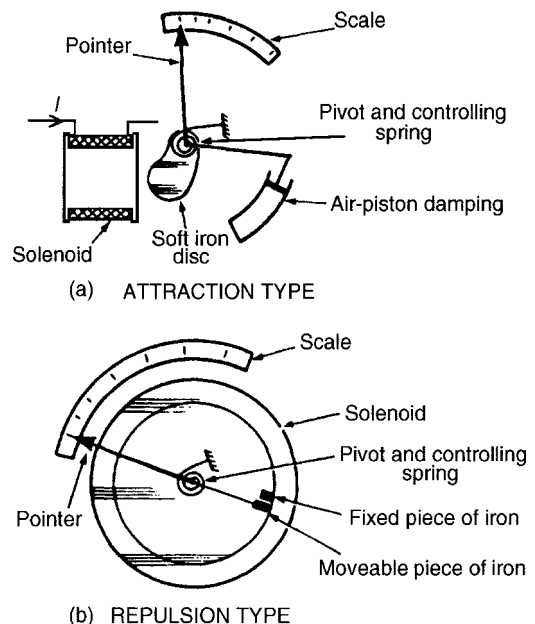

Figure 10.2
- An **attraction type** of moving-iron instrument is shown diagrammatically in Fig. 10.2(a). When current flows in the solenoid, a pivoted soft-iron disc is attracted towards the solenoid and the movement causes a pointer to move across a scale.
- In the **repulsion type** moving-iron instrument shown diagrammatically in Fig. 10.2(b), two pieces of iron are placed inside the solenoid, one being fixed, and the other attached to the spindle carrying the pointer. When current passes through the solenoid, the two pieces of iron are magnetized in the same direction and therefore repel each other. The pointer thus moves across the scale. The force moving the pointer is, in each type, proportional to  $I^2$  and because of this the direction of